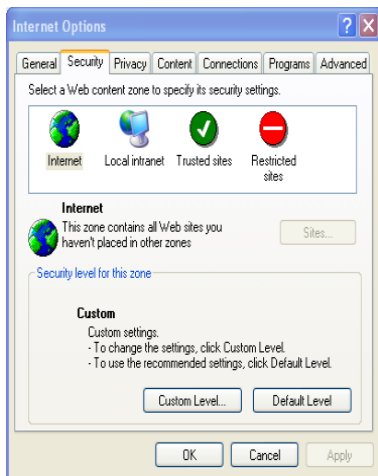

Fig 4-1
- ① Open IE browser. Click Tools---- Internet Options....
- ② Select Security-----Custom LevelRefer to Fig 4-1.